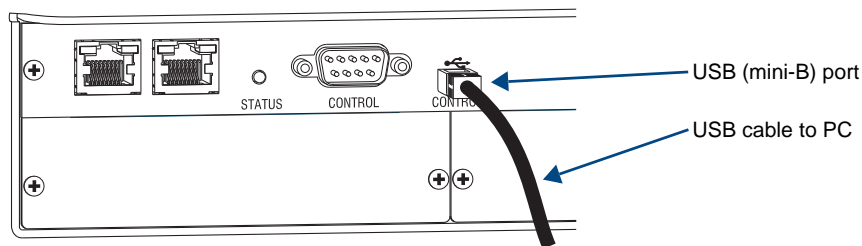

FIG. 30 USB cable connected to USB port on Enova DGX 32 and to PC
2. Connect the enclosure to a PC running Windows with USB cable (FIG. 30).